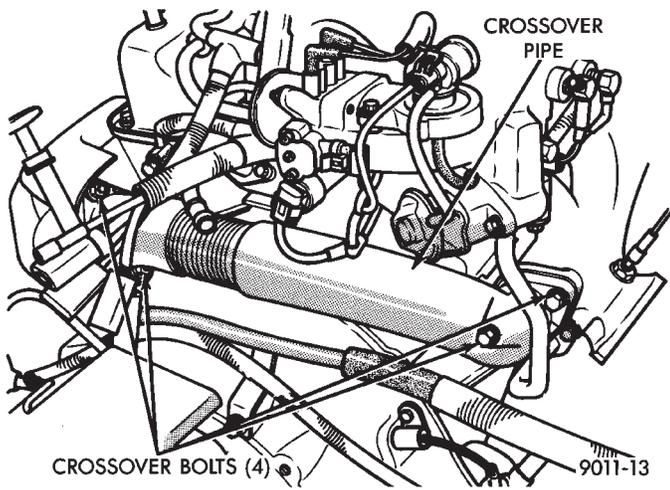

Fig. 18 Crossover Pipe
(7) Remove bolts fastening crossover pipe to front exhaust manifold and nuts fastening manifold to cylinder head. Remove assemblies (Fig. 18).
- (5) Install front exhaust manifold and attach exhaust crossover (Fig. 18).